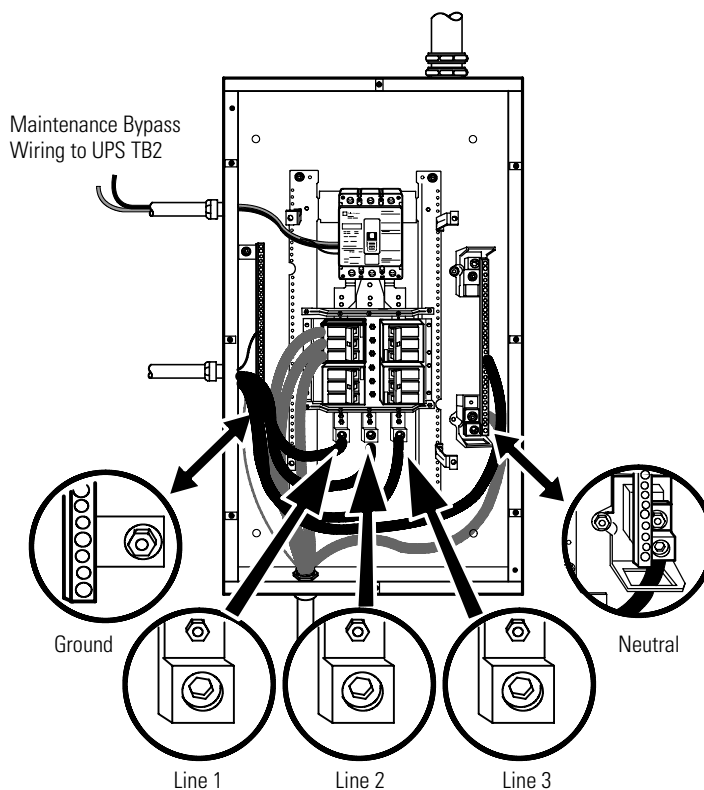

Figure 24. Load Connections
15. Hardwire the load to the bypass cabinet (see Figure 24).